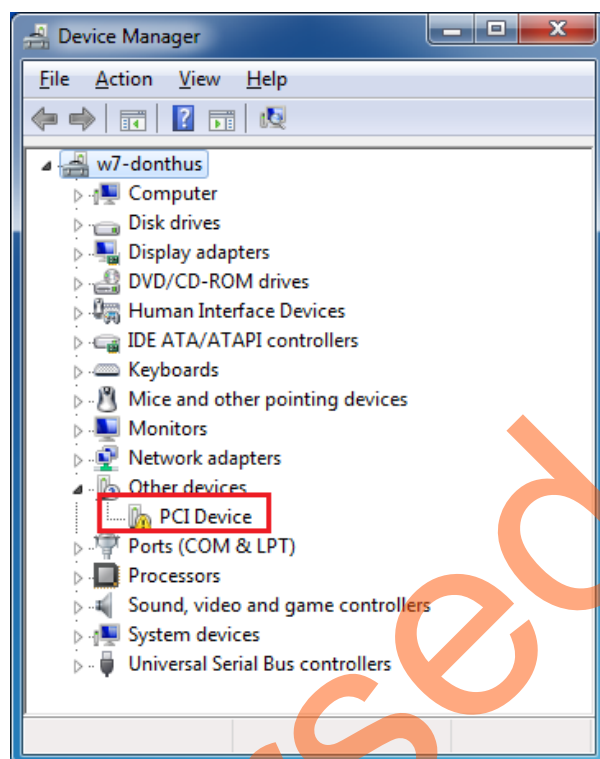

Figure 7 • Device Manager - PCIe Device Detection
5. Power on the Host PC and check the **Device Manager** of the Host PC for **PCIe Device**. Figure 7 shows the **Device Manager** window.